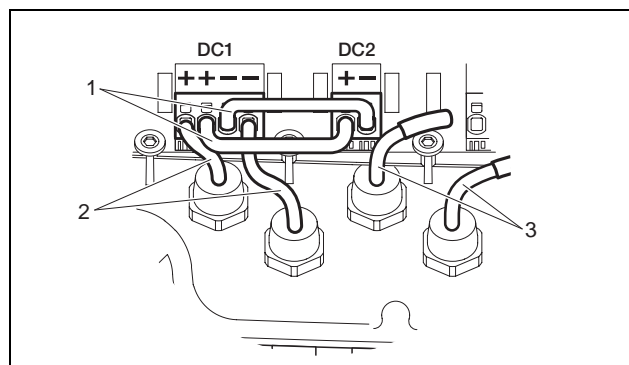

Fig. 18: Inputs 1 and 2 connected in parallel (convert 3.5T/4T dcs)
- convert 3.5T/4T/8T/10T dcs: If required, now connect inputs 1 and 2 **in parallel**. Insert the bridges supplied into the clamps as shown (figure 18/19).